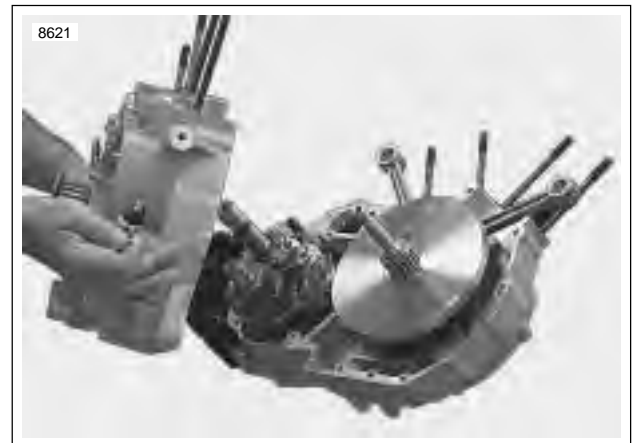

Figure 6-88. Crankcase Halves
4. See Figure 6-88. Assemble crankcase halves together.